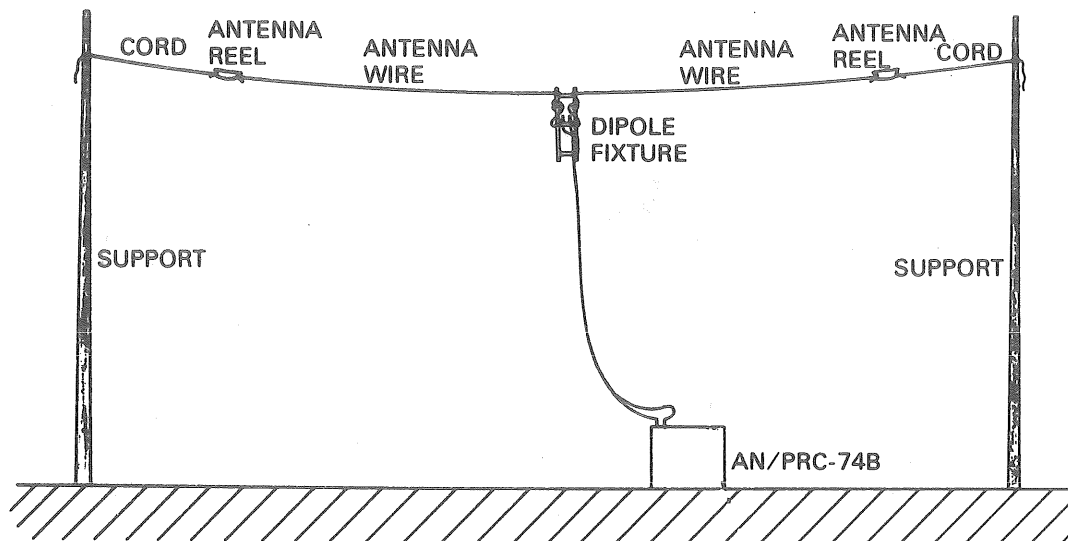

Figure 7. Erected dipole antenna.
- d. Erect antenna as illustrated in figure 7.